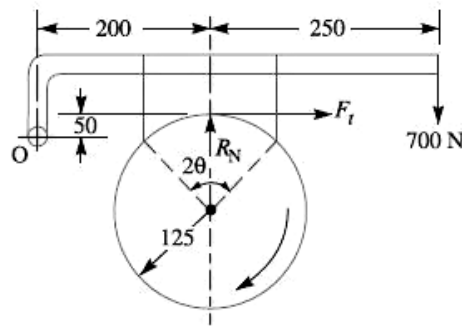

Figure 4.1
- Q.4 (a)** A single block brake as shown in figure 4.1, the diameter of the drum is 250 mm and the angle of contact is 90° . If the operating force of 700 N is applied at the end of a lever and the coefficient of friction between drum and lining is 0.35, determine the torque that can be transmitted by the block brake. **07**